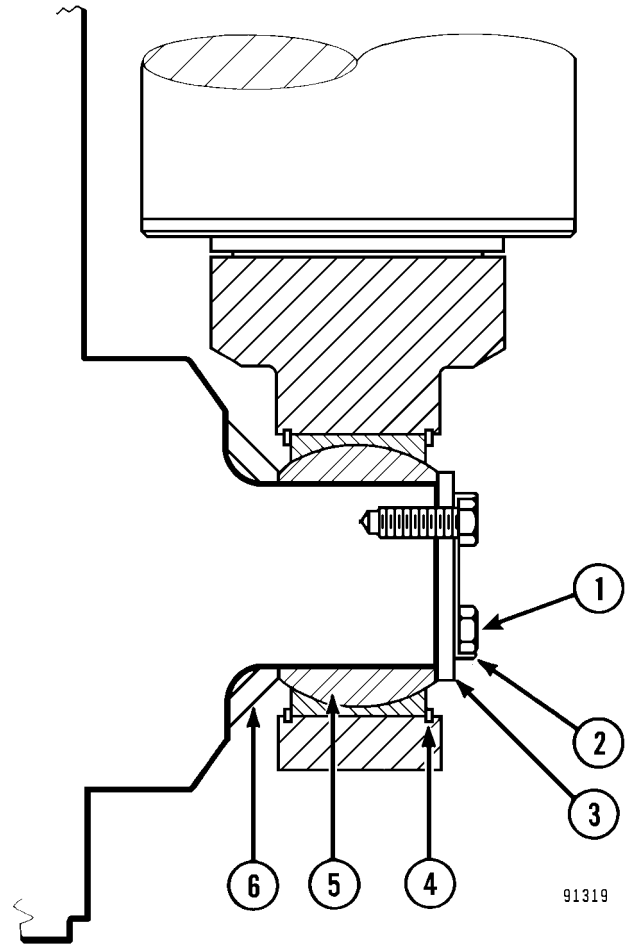

FIGURE 8-19. HOIST CYLINDER LOWER MOUNT
1. Raise the cylinder into position over the pivot point on the frame. The cylinder should be positioned with the air bleed vent plug toward the front of the truck. Install spacer (6, Figure 8-19). Align bearing eye with pivot point and push cylinder into place.
2. Install retaining plate (3), locking plate (2), and capscrews. Tighten capscrews to **220 ft. lbs. (298 N.m)** torque. Bend locking plate tabs over capscrew flats.